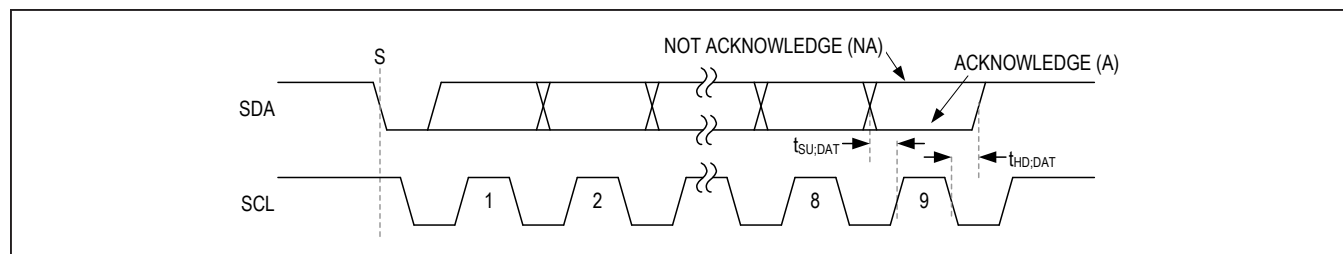

Figure 5. Acknowledge Bit
Both the I²C bus master and the MAX77874 (slave) generate acknowledge bits when receiving data. The acknowledge bit is the last bit of each nine bit data packet. To generate an acknowledge (A), the receiving device must pull SDA low before the rising edge of the acknowledge-related clock pulse (ninth pulse) and keep it low during the high period of the clock pulse. See Figure 5. To generate a not-acknowledge (nA), the receiving device allows SDA to be pulled high before the rising edge of the acknowledge-related clock pulse and leaves it high during the high period of the clock pulse.